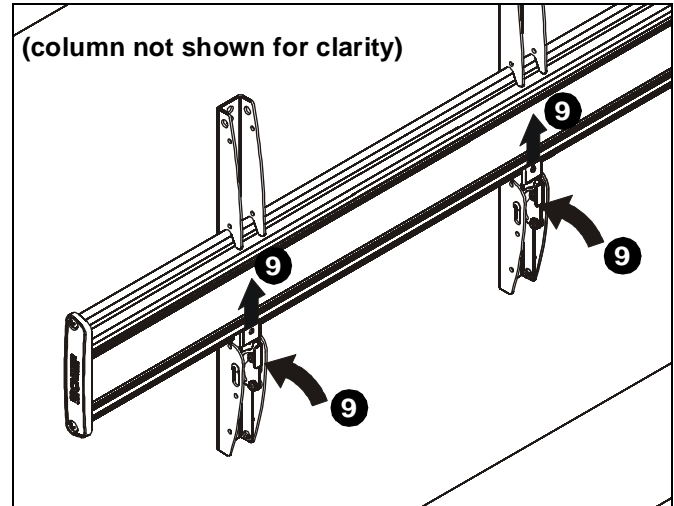

Figure 11
9. Move latches on interface uprights to the "closed" position to secure display to head assembly. (See Figure 11)